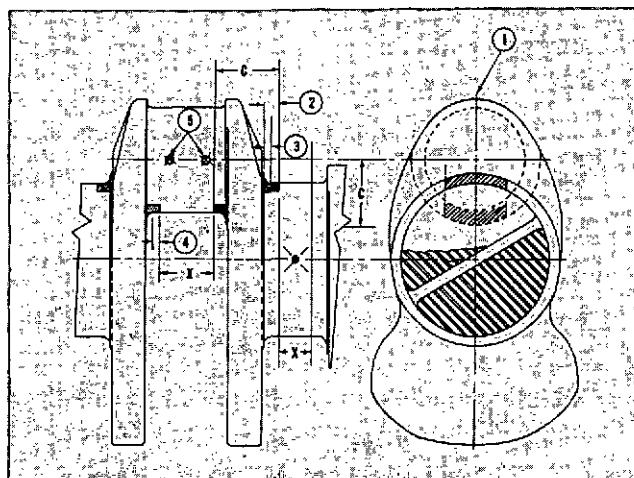

Fig. 1-4-7, V40145. Crankshaft magnetic inspection
b. Limits listed in following steps must be maintained within region "C" (Critical Region) shown in Fig. 1-4-7. Dimensional value of "C" is vertical distance measured downward from crankpin center-line and extending longitudinally for all crank webs between region "X" on crankpin and region "X" on main journal.
c. Indications located less than 1 inch [25.4000 mm] from major axis on centerline (1, Fig. 1-4-7) of adjacent web (measured circumferentially) must not exceed the following limits: